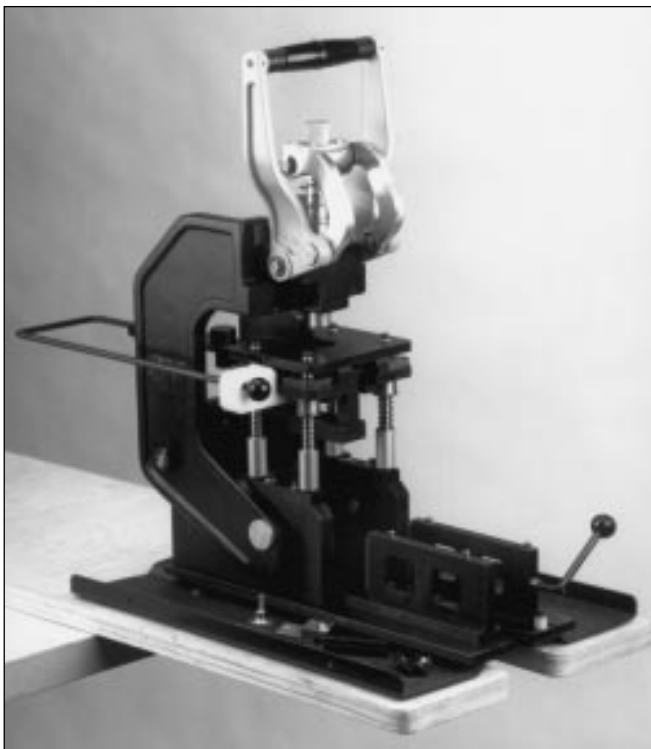

Figure 1. 10960-2000 Hand Press
- 10960-2000Hand Press (Fig. 1)